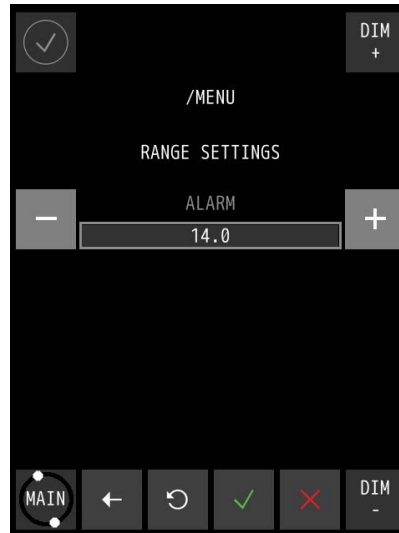

Figure 35: Range settings Enabled
2. Repeatedly touch the + button to change the ALARM value to the maximum working rudder angle. This value is the Rudder Alarm Indication for both port and starboard side. When the rudder angle is beyond this angle, say 14°, there will be a visible indication, see *Figure 35: Range settings Enabled* on page 39.